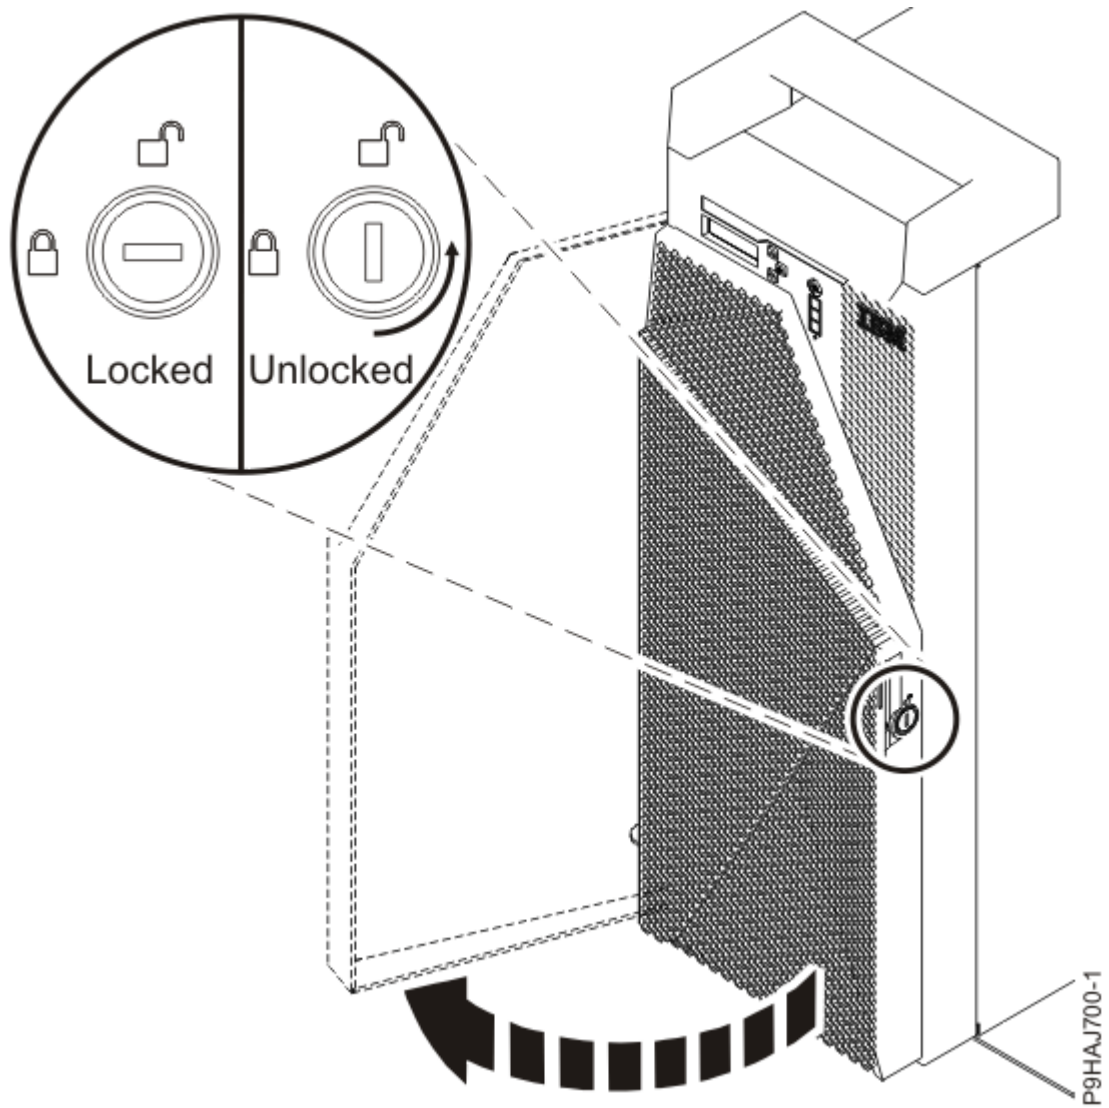

Figure 6. Unlocking the front door
- a) Insert the front door key into the lock as shown in Figure 6 on page 21. Twist the key to the left (counterclockwise) to unlock the door. Horizontal is locked; vertical is unlocked. Open the front door.